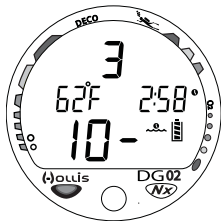

Fig. 66 - Surface Mode
- Surface Interval times greater than 9:59 (hr:min) will be displayed only as Hours 10-, 11-, 12-, etc. (Fig. 66)